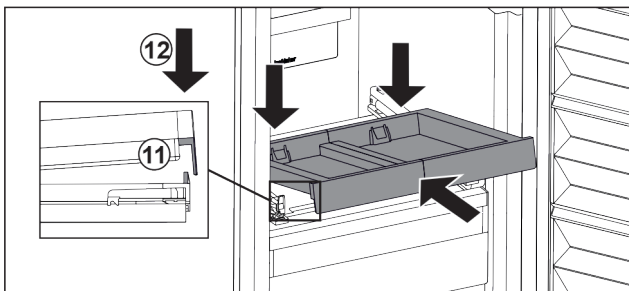

Fig. 143
- ▶ Slide in at an angle. Make sure that the stop is behind the lug on both sides. *Fig. 143 (11)*
- ▶ Lower the pull-out board at the front. *Fig. 143 (12)*